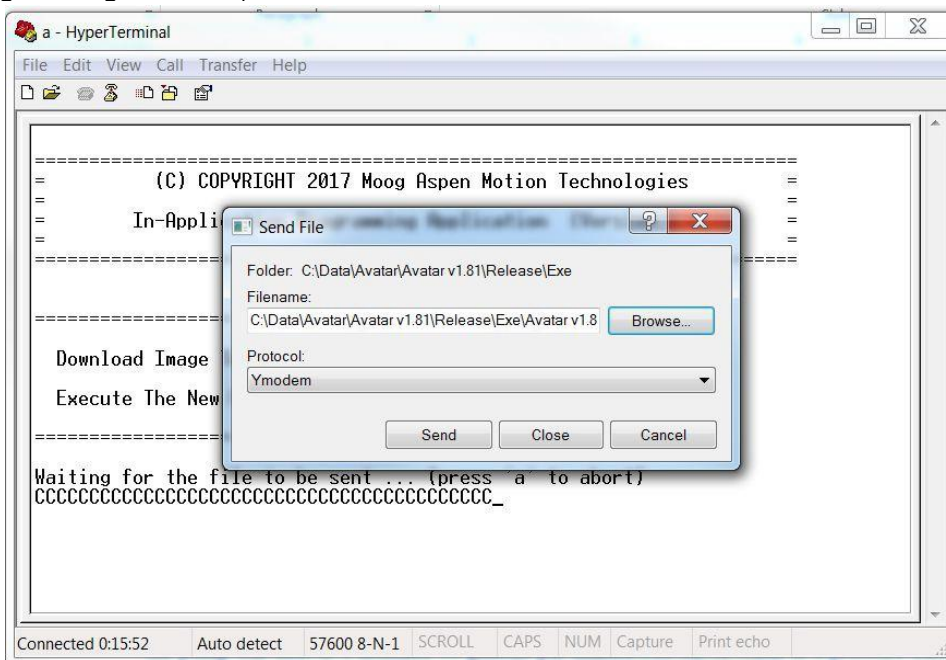

Fig. 3. Send File window
- (5) Click on the “Transfer” menu button at the top of window and select “Send File...”. The window shown in Fig. 3 will open prompting you for the file information. Using the dropdown menu, select the “Ymodem” Protocol, and then browse to and select the filename of the “.bin” binary programming file. Finally, click Send.